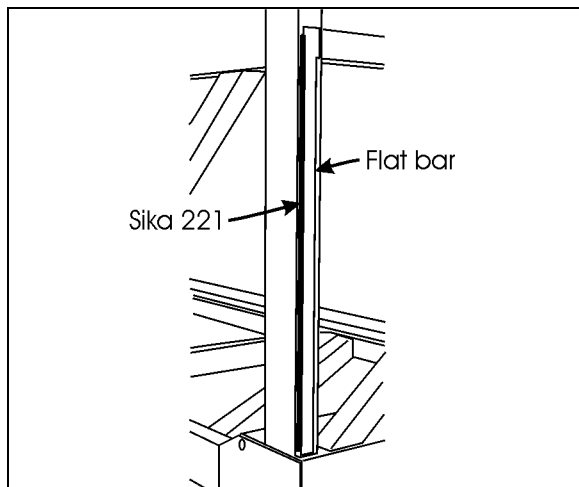

FIGURE 43 : SIDE PANEL INSTALLATION – SIKA 221 APPLICATION ON STRUCTURE
- Inspect the Sika bead at the intersection of the corner vertical member and the flat bar as shown in FIGURE 43. If it is damaged, remove adhesive residue and apply a new 3mm diameter bead of Sika 221;